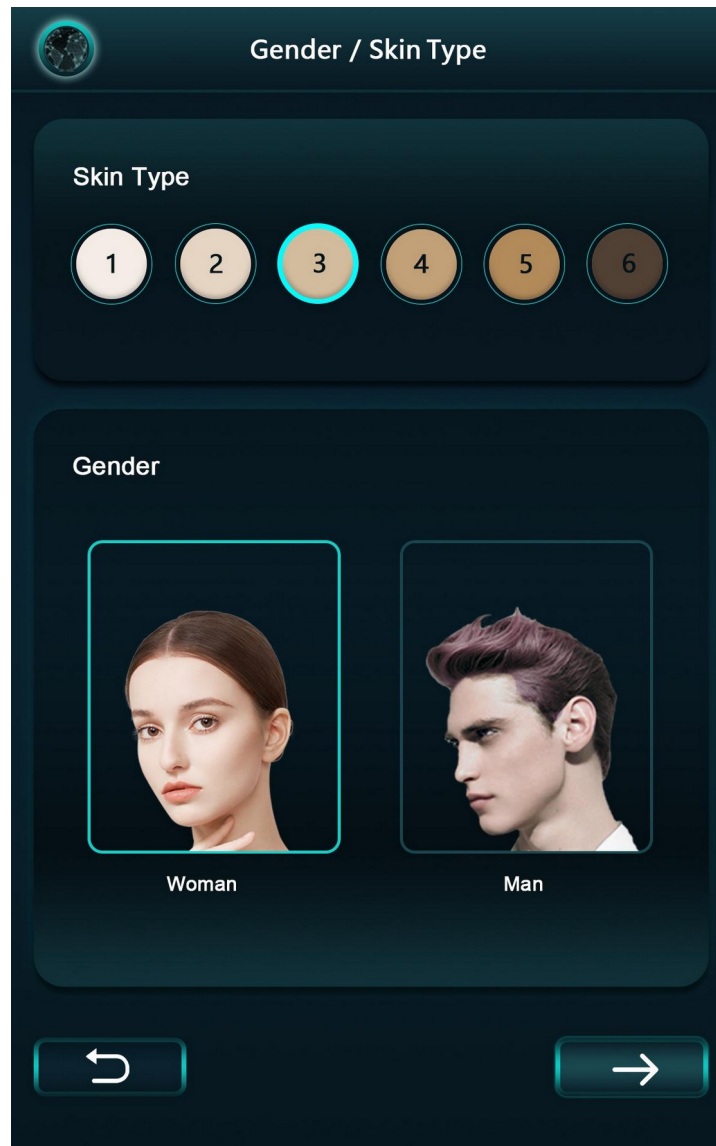

Figure 5.17
2. Once you enter the handpiece icon, follow the next pages to select basic data: gender and skin type (see Figure 5.17), then press Enter for the operation mode.